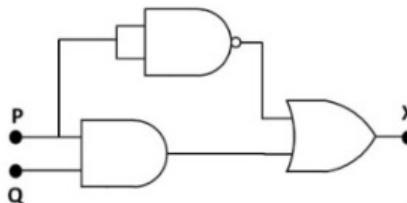

Fig. 3.8
20. Which one of the following options is CORRECT for the given circuit in Fig. 3.8?